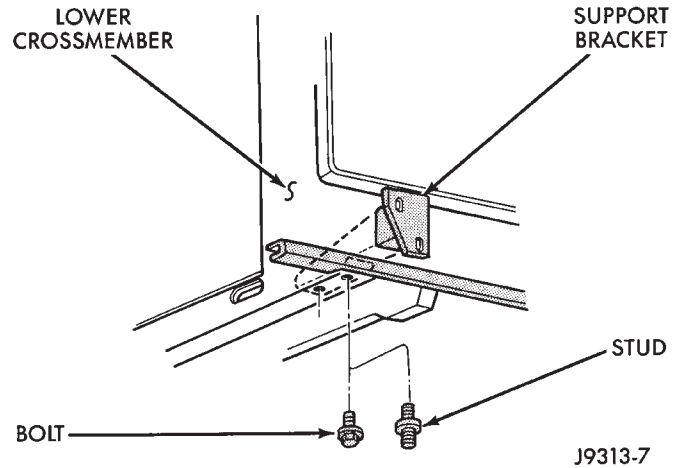
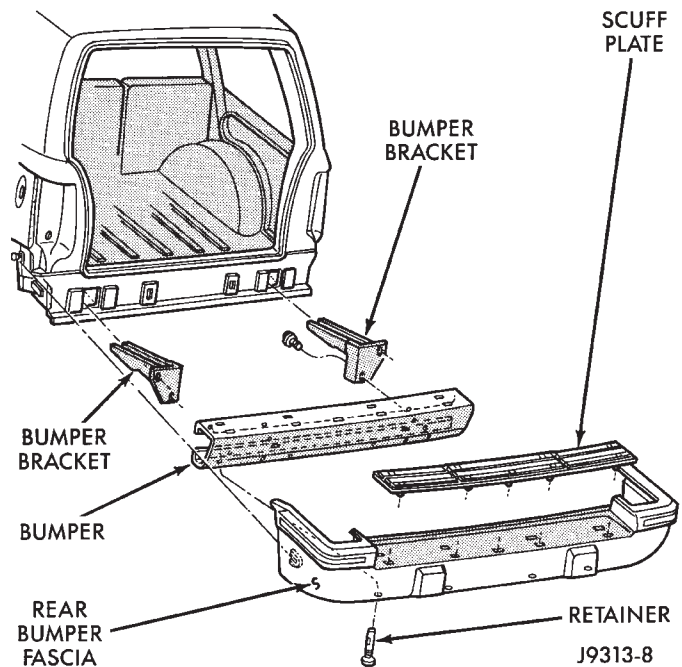

Fig. 5 Bumper Support Bracket
Fig. 6 Bumper Removal
- (1) For vehicles equipped with a trailer hitch, remove the hitch before removing the bumper. If necessary, refer to the removal procedure within Group 23—Body Components.
- (2) Raise and support the rear of the vehicle.
- (3) Support the bumper.
- (4) Remove 2 push-in retainers at each side rear wheel well.
- (5) Remove the bolts that attach the bumper support brackets to the rear rails (Fig. 5).
- (6) Slide the bumper beam/fascia off of the retainer pegs on the side of the lower quarter panel.
- (7) Remove the beam/fascia from the vehicle.
- (8) Remove the bumper support brackets from the bumper (Fig. 6).
- (9) Remove the upper scuff pad from the bumper fascia by squeezing fasteners and pushing through slots.(Fig. 6).
- (10) Remove the 4 lower retainers from the bumper fascia (Fig. 6).
- (11) Remove the bumper fascia from the bumper.
- (1) Install brackets onto bumper beam.
- (2) Install beam/brackets onto vehicle rails finger-tight (Fig. 6).
- (3) Install fascia onto bumper assembly (Fig. 6).
- (4) Check gaps and fit. Adjust as necessary. Tighten bolts to 56 N•m (41 ft-lbs).
- (5) Install scuff pad (Fig. 6).
- (6) If removed, install the trailer hitch. If necessary, refer to the installation procedure within Group 23—Body Components.
- (1) For vehicles equipped with a trailer hitch, remove the hitch before removing the bumper fascia. If necessary, refer to the removal procedure within Group 23—Body Components.
- (3) Remove the upper scuff pad from fascia (Fig. 6).
- (4) Remove the 4 lower retainers from fascia (Fig. 6).